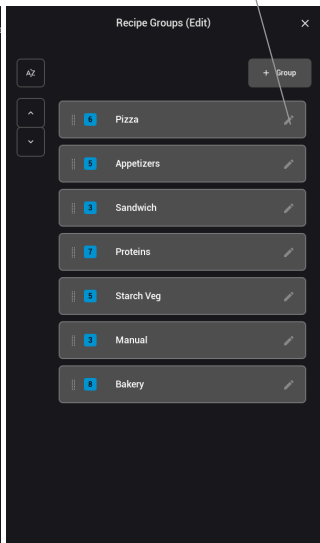

Figure 21: Edit Mode: Group Edit
- 2. Touch the “edit” button (2) (Figure 21 above).